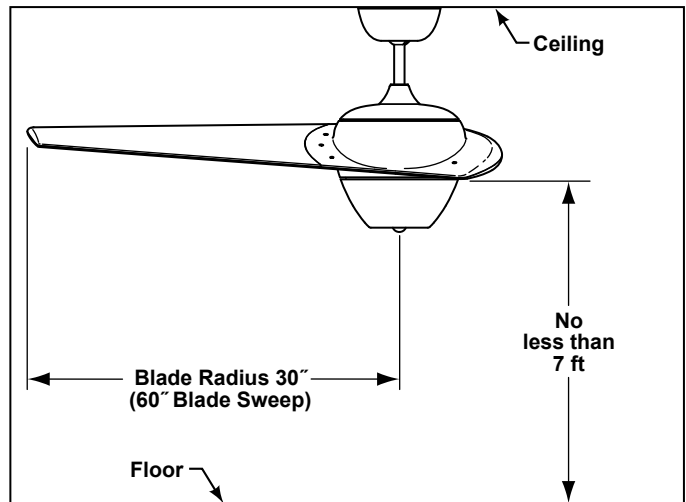
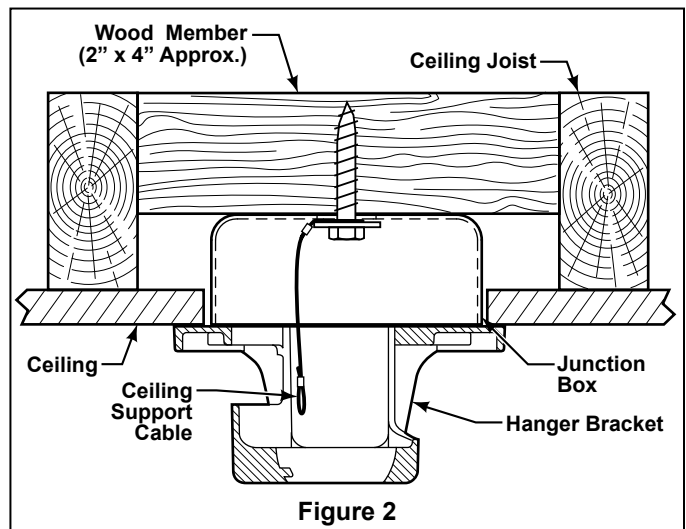

Figure 1
Figure 2
**NOTE:** If you are uncertain of part description, refer to exploded view illustration. (Figure 1, page 11)
Your new ceiling fan will require a grounded electrical supply line of 120 volts AC, 60 Hz, 15 amp circuit. The outlet box must be securely anchored and capable of withstanding a load of at least 50 lbs. Figure 1 depicts different structural configurations that may be used for mounting the outlet box.
3. Assemble the Lower Cover Assembly by connecting the 2-pin (black & white wires) socket connector to the plug connector (blue & white wires). Be sure the connector wires are inside the Control Housing before assembling the Lower Cover Assembly. (Figure 1)
4. Locate and loosen two Indexing Screws located on the Control Housing. (Figure 1) Line up the indexing holes over the screws, secure by twisting the Lower Cover Assembly clockwise and tighten the two indexing screws. (Figure 2)
The fan must be hung with at least 7' of clearance from floor to blade (Figure 1)
1. Securely attach the ceiling support cable to the ceiling joist or structural member using the  $\frac{3}{8}$ " x 2" lag bolt and flat washer. The lag bolt will pass through the flat washer, loop of the ceiling support cable, the outlet box and into the supporting member (Figure 2). You will first drill a  $\frac{1}{4}$ " pilot hole into the supporting member to prevent splitting or cracking.
**NOTE:** Ceiling support cable cannot be secured to junction box only, it must be directly secured to ceiling joist or structural member using the  $\frac{3}{8}$ " x 2" lag bolt and flat washer. (Figure 2).
- Slide remote Receiver into the Hanger Bracket (Figure 2).